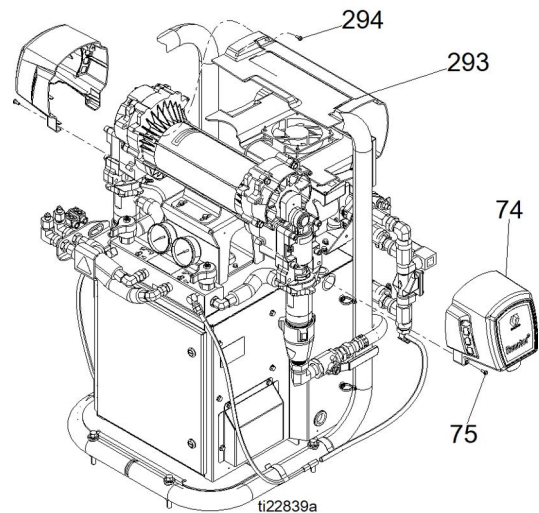

FIG. 12
12. Remove screws (294) and motor shield (293), see FIG. 12.
- NOTE:** Examine bearing housing (303) and connecting rod (305). If these parts need replacing, first remove the pump (315), see **Remove Pump**, page 69.
13. Remove cover (74) and screws (75).
14. Remove cycle switch (321) from A side drive housing. Remove screws (322) and cycle switch (321).
15. Disconnect pump inlet and outlet lines. Remove screws (313), washers (314), and bearing housing (303).